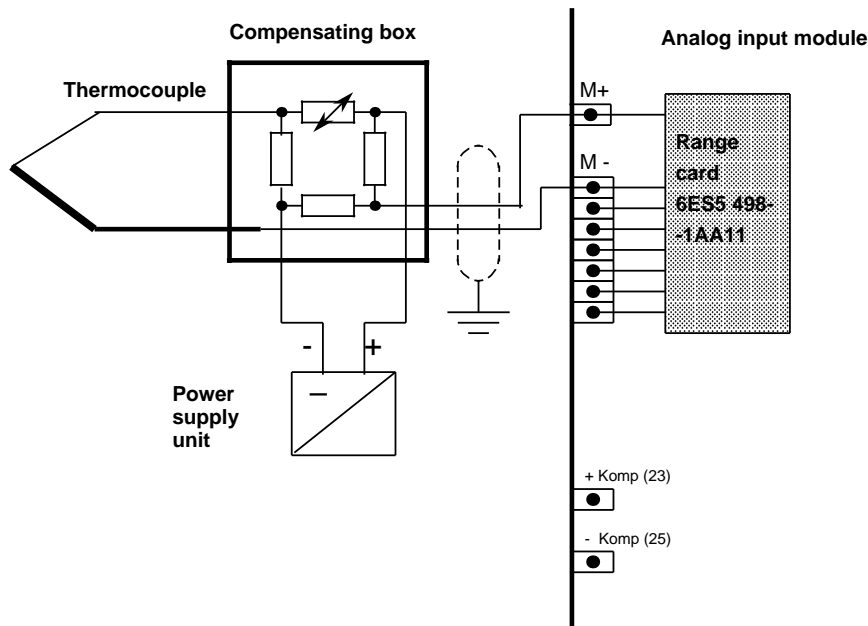

Figure 10-5. Connecting a Compensating Box to the Input of an Analog Input Module
- Run the remaining terminal leads from compensating box and thermocouple to the analog module (terminal M+and M - see Figure 10-5).